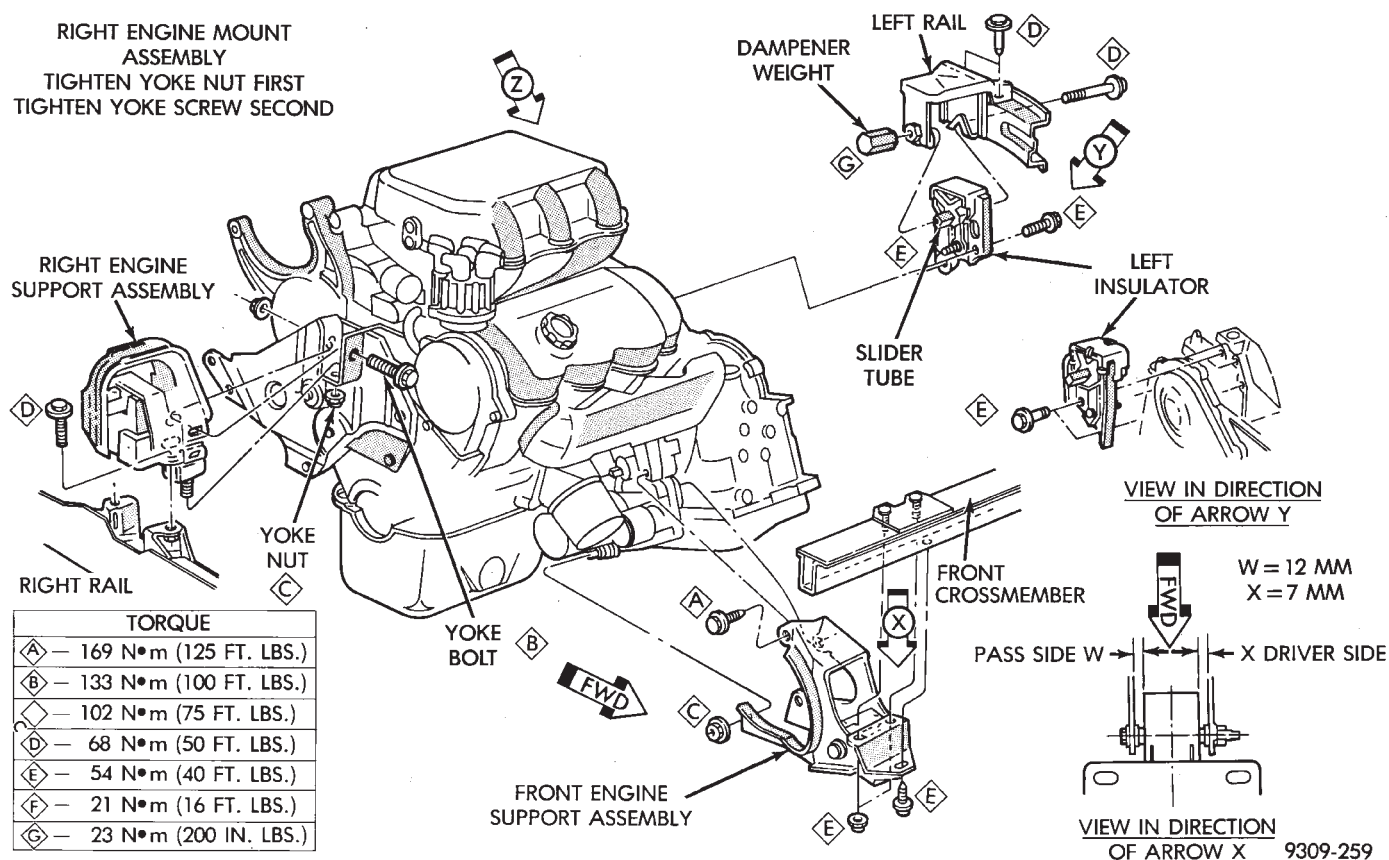

Fig. 2 Engine Mounting
- (1) Remove the right engine mount insulator vertical fasteners from frame rail.
- (2) Remove the load on the engine motor mounts by carefully supporting the engine and transmission assembly with a floor jack.
- (3) Remove the thru bolt from the insulator assembly. Remove insulator.
- (4) Reverse removal procedure for installation. Refer to (Fig. 2) for bolt tightening specifications.
- (5) Engine mount adjustment, Refer to Engine Mount Insulator Adjustment of this section.
- (1) Support the engine and transmission assembly with a floor jack so it will not rotate.
- (2) Remove the thru bolt from the insulator and front crossmember mounting bracket.
- (3) Remove the front engine mount bracket to front crossmember screws and nuts. Remove the insulator assembly.